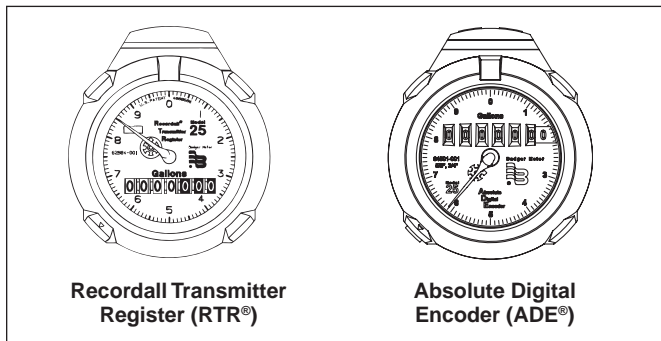

Figure 1
Each ORION pit transmitter can be identified using the unique eight-digit serial number located on a tag attached to the wire harness. At the end of the serial number a letter 'M' or 'N' appears. This alpha character represents whether the transmitter is for Metal (M) or Non-metal (N) pit lid applications. Each Badger Meter encoder is clearly identified on the face of the register with an assembly number, unit of measure and meter model (see figure 1). It is essential that the correct transmitter is used for the correct pit lid application. Failure to do so will result in a violation of FCC regulations.